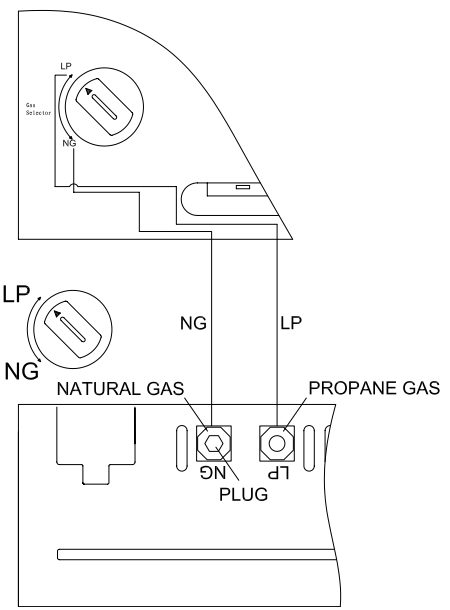

Figure 16
3. For propane gas, press in knob using a flat screwdriver with a blade the thickness of a quarter and turn knob clockwise  until the knob locks into the LP position, see Figure 16. Selection valve must be locked in the LP position. Do not operate heater between locked positions.